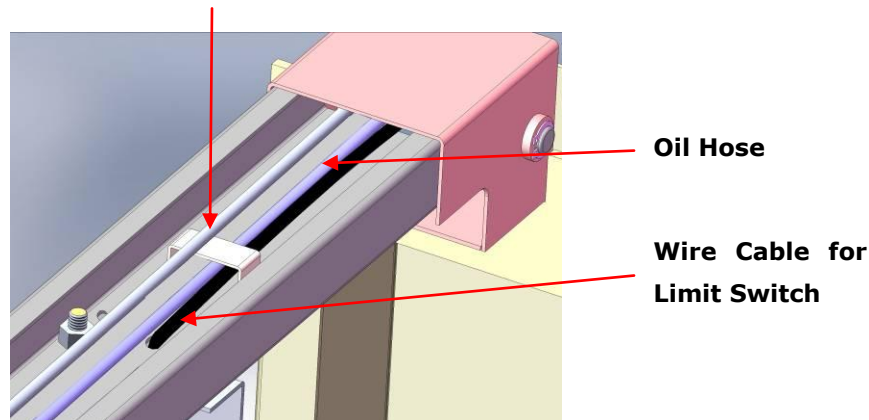

Fig. 32
2. Install Safety Cable and Oil Hose. (See Fig. 30 & Fig. 31 & Fig. 32)